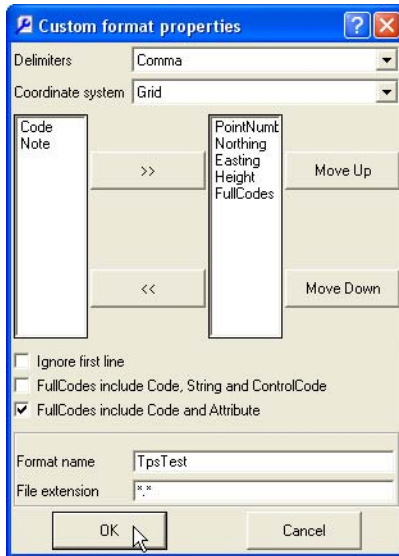

Figure 3-12. Enter Format Name and File Extension
If the file format contains FullCodes, it should be the last in the list of the right panel in the *Custom format properties* dialog box (Figure 3-12 on page 3-12).
11. Name the format and give it an extension to include it in the *Format name* list (Figure 3-12 on page 3-12).
12. Click **OK** to import the selected file according to the indicated format properties (Figure 3-12 on page 3-12).